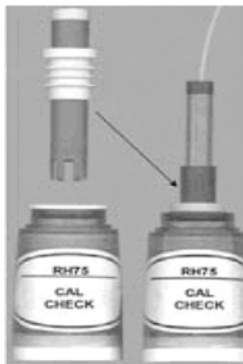

Figure 3
3. Insert calibration sleeve into cell as shown in Fig. 3